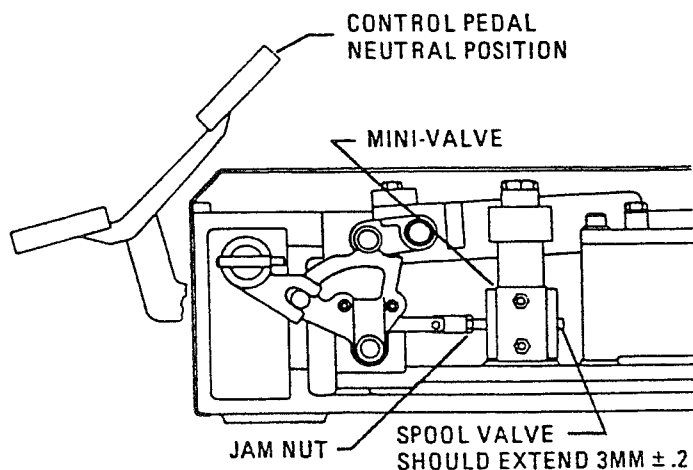

Figure 1-31.
2. With the control pedal in the neutral position, the back side of the spool valve should extend past the mini-valve body $3\text{mm} \pm .2$. See figure 1-31.